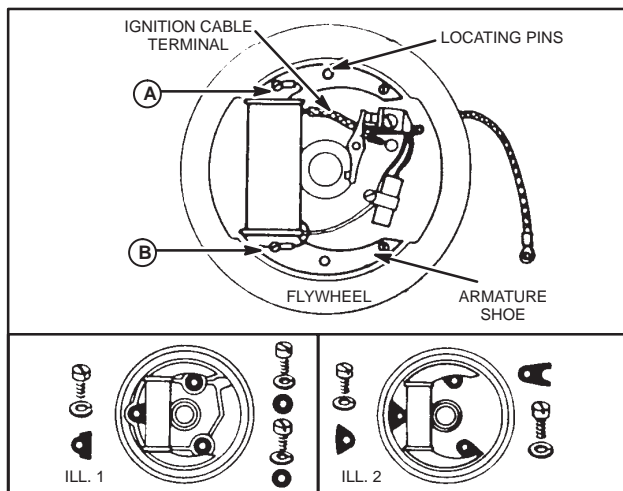

Fig. 27 – REPLACING ARMATURE
Remove armature wire from contact bracket. Remove the ignition cable from the terminal on the coil. Unscrew four armature mounting screws. Hold magneto plate and pry armature loose with a screwdriver. To test coil be sure to fasten both secondary ground loops (A and B) to the core, Fig. 27. The secondary of this coil is split and the ground wires are not connected inside the coil. Failure to fasten either or both of these ground wires will result in a weak or dead coil. Mount armature on the two (2) locating pins as shown in Fig. 27. Fasten armature to plate with four (4) mounting screws – with two (2) screws next to coil end inserted in loop A and B. Fasten ignition cable to terminal of coil. Dirt under the stop button spring in blower housing, or on air guide in some models, will cause a short. Check and clean.
**NOTE:** EARLY MODEL FH engines were not equipped with steel locking plates under mounting screws and lockwashers of magneto plates. This caused screws and lockwashers to become loose and damage the magneto. On magneto plates with reinforcing rib as shown in Fig. 27, Ill. 1, use locking plate, Part #69711 (NLA). On plates without reinforcing rib, use Part #69712 (NLA), Fig. 27, Ill. 2.